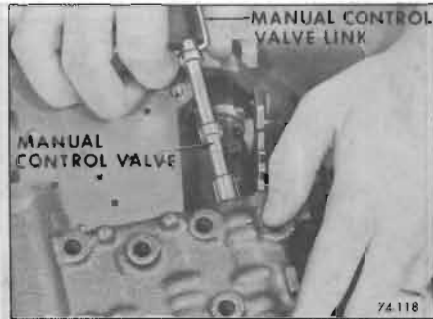

Figure 74-335
2. Install manual control valve and link into valve body assembly. See Figure 74-335.